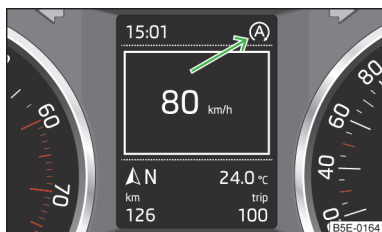

Fig. 137
Automatic engine shut down (STOP phase) takes place. The warning icon (A) » Fig. 137 appears in the display of the instrument cluster.
Automatic engine shut down takes place. The warning icon (A) » Fig. 137 appears in the display of the instrument cluster.